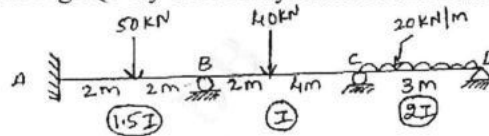

Fig. Q7
- 7 Analyze the beam shown in Fig. Q7 by flexibility matrix method. Draw BMD. (16 Marks)